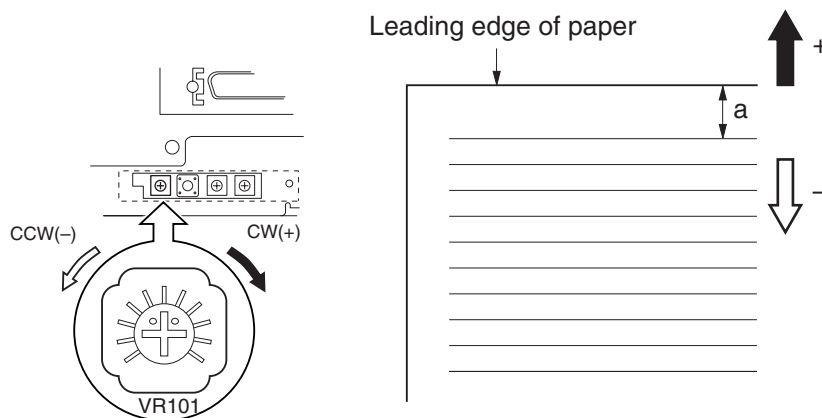

Figure 4-7-2
- 3) Measure the distance (a) from the leading edge of the paper to the print pattern. (Figure 4-7-2)
Turning VR101 clockwise moves the image in the direction of + (Figure 4-7-2), while turning it counterclockwise moves it in the direction of -; a single index is a shift of about 1.7 mm.